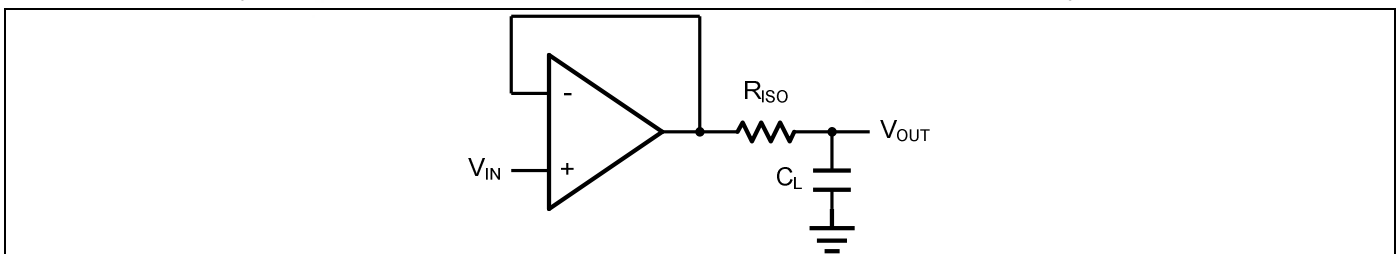
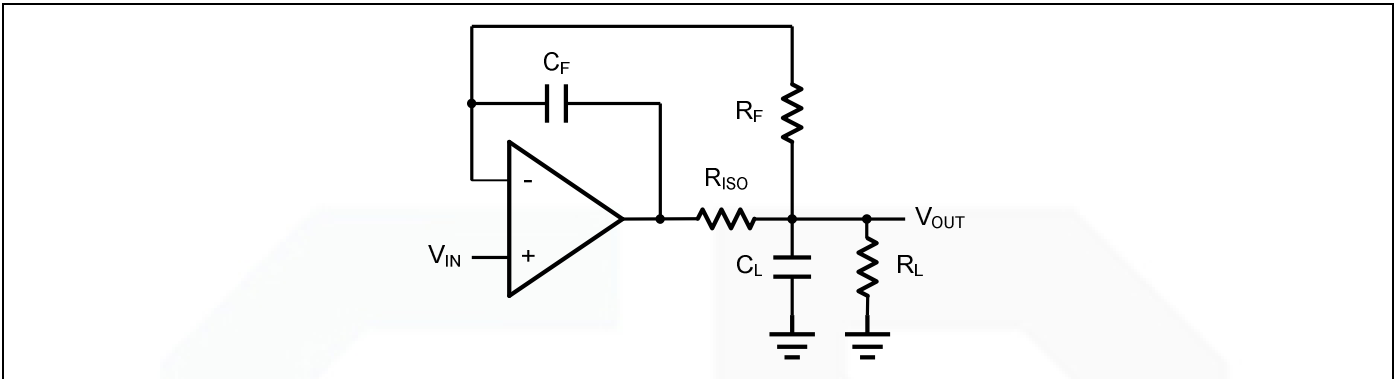

Figure 2. Indirectly Driving a Capacitive Load Using Isolation Resistor
Figure 3. Indirectly Driving a Capacitive Load with DC Accuracy
The GS859x family is optimized for bandwidth and speed, not for driving capacitive loads. Output capacitance will create a pole in the amplifier's feedback path, leading to excessive peaking and potential oscillation. If dealing with load capacitance is a requirement of the application, the two strategies to consider are (1) using a small resistor in series with the amplifier's output and the load capacitance and (2) reducing the bandwidth of the amplifier's feedback loop by increasing the overall noise gain. Figure 2. shows a unity gain follower using the series resistor strategy. The resistor isolates the output from the capacitance and, more importantly, creates a zero in the feedback path that compensates for the pole created by the output capacitance.
The circuit in Figure 3 is an improvement to the one in Figure 2. R_F provides the DC accuracy by feed-forward the V_{IN} to R_L . C_F and R_{ISO} serve to counteract the loss of phase margin by feeding the high frequency component of the output signal back to the amplifier's inverting input, thereby preserving the phase margin in the overall feedback loop. Capacitive drive can be increased by increasing the value of C_F . This in turn will slow down the pulse response.